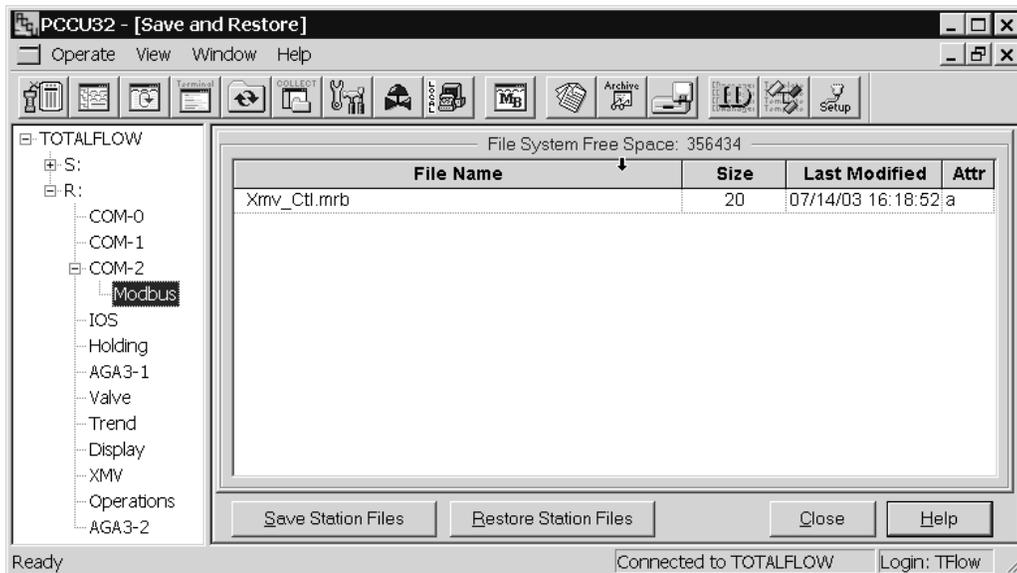

Figure 2–14 Save and Restore Tree View
- C) Return to “File Utilities” in the Operate Menu and select “Modbus Host Request Block Editor” (see Figure 2–15).